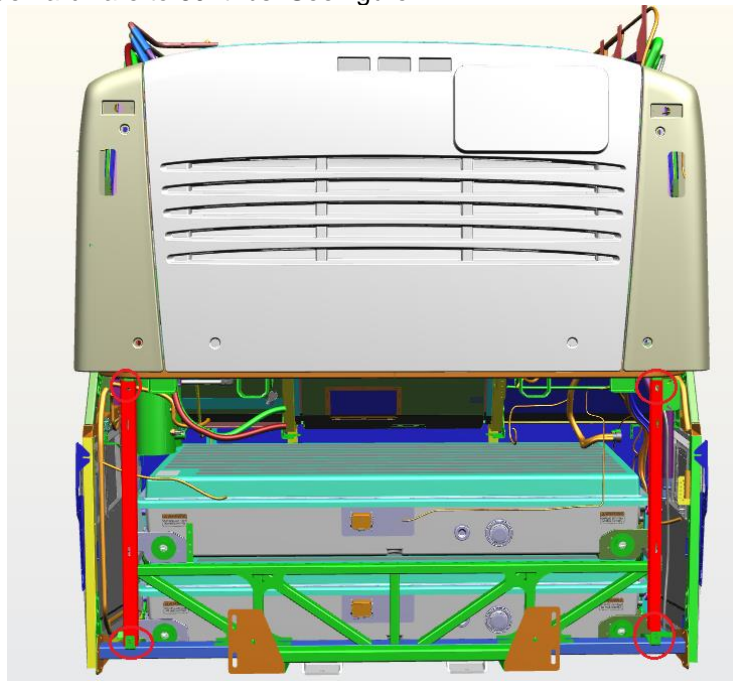

Figure 17: Curbside and streetside lower pillar mounting bracket location reference.
30. Reinstall curbside and streetside lower pillar mounting brackets. Secure using existing ½ inch bolt, flat washer and nylock nut. Torque hardware to 69 ft-lbs. See figure 17.